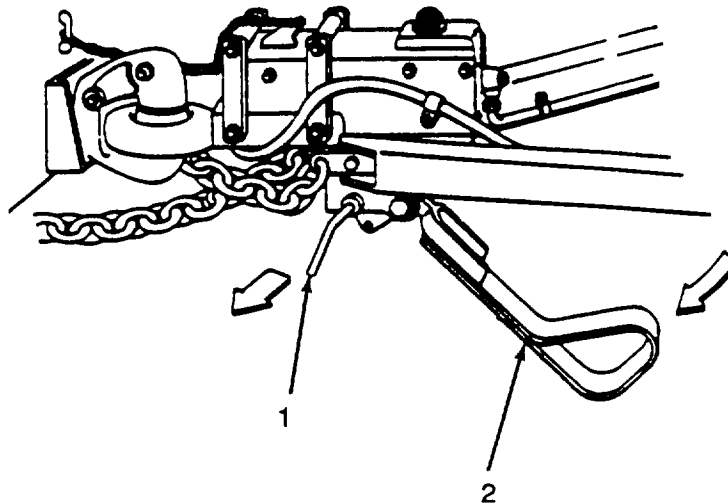

Figure 4-3. Front Support Leg.
- (1) Pull out spring-loaded plunger (1)
- (2) Push front support leg (2) down.
- (3) Lock front support leg (2) in down position by pushing spring-loaded plunger (1) in all the way. Refer to figure 4-3.